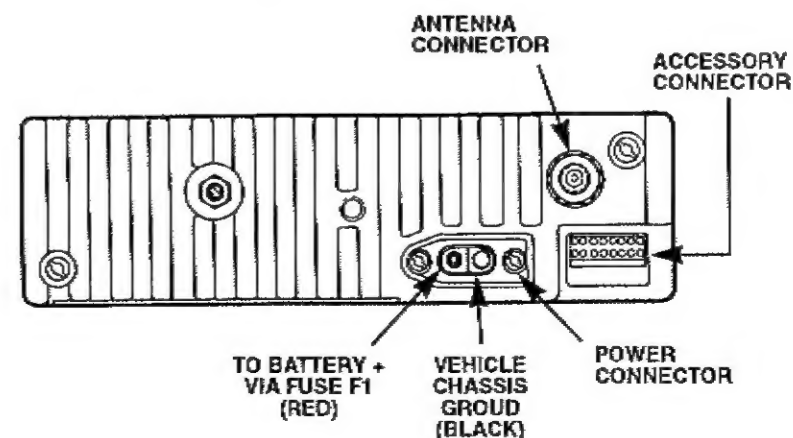

Figure 3. Connection to Radio Rear Panel
5. To complete your radio installation plug the power cable into the radio power connector (see Figure 3).
7. Connect the antenna cable connector to the radio antenna connector on the rear of the radio (see Figure 3).